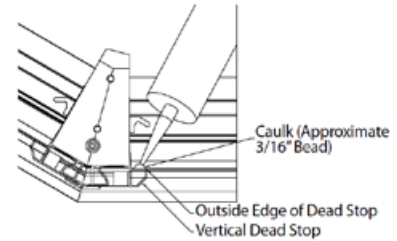

Figure C2
5. Starting at one of the 2 vertical dead stops, run a moderate (3/16") bead of caulk down the dead stop using the outside edge as a guide. Then repeat process for remaining vertical dead stop on other side of frame opening. **(Figure C2)**